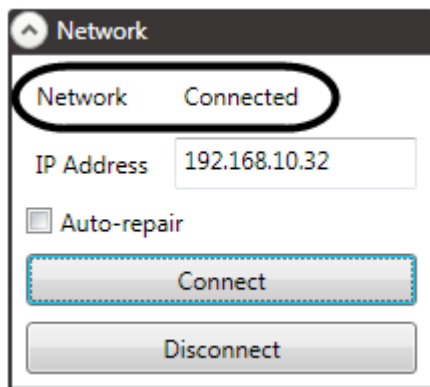

Figure 29
4. The Network status should then change from **Disconnected** to **Connected** (Figure 29). *If there's a network error, check your IP settings on the computer and Stagehand and then check your cabling.*